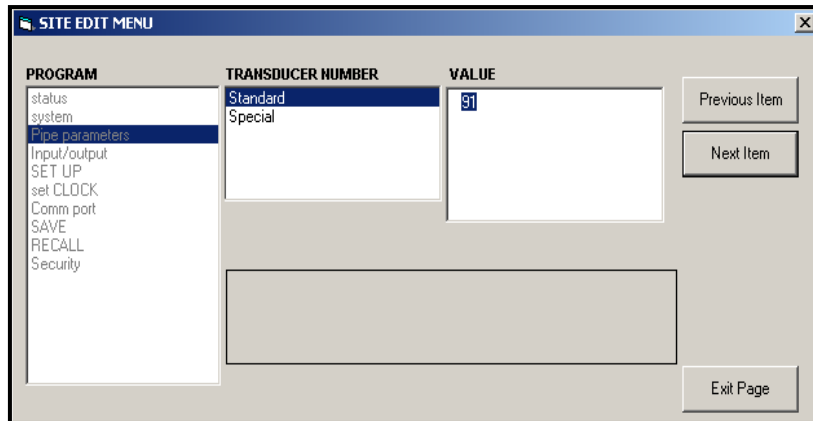

Figure 38: Pipe Parameters Option in the Site Edit Menu
- a. Highlight and double-click on the desired option in the left pane. *Figure 38* below shows the first entry (Transducer Number) in the *Pipe parameters* option. The title above the center pane lists the current entry, while the center pane displays the available selections for that entry.